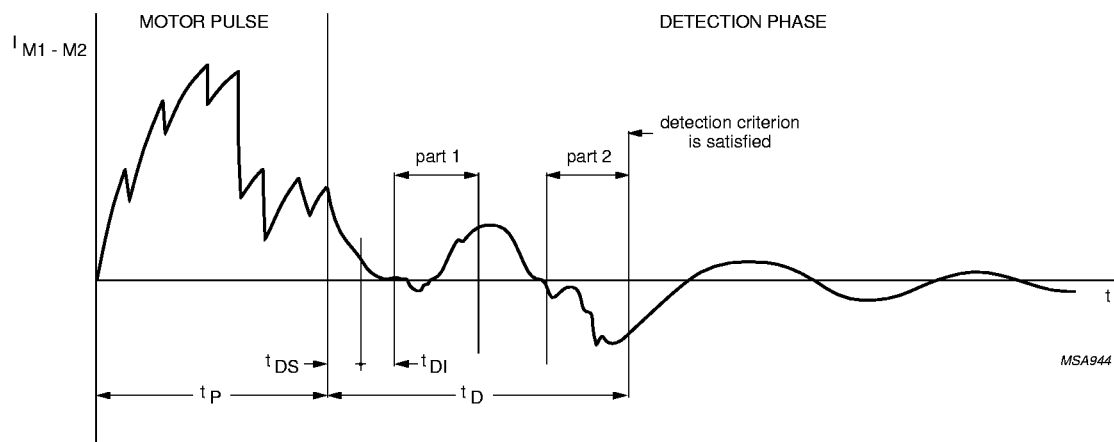

Fig.5 Typical current waveform of a successfully executed motor pulse.
The PCA148x uses current detection in two defined parts of the detection phase to determine if the motor has moved (refer to Figs 5 and 6). The detection criteria are:
- Minimum value of $N = 2$; where N = number of measured positive current polarities since the first negative current polarity after part 1 was detected (see Fig.5).